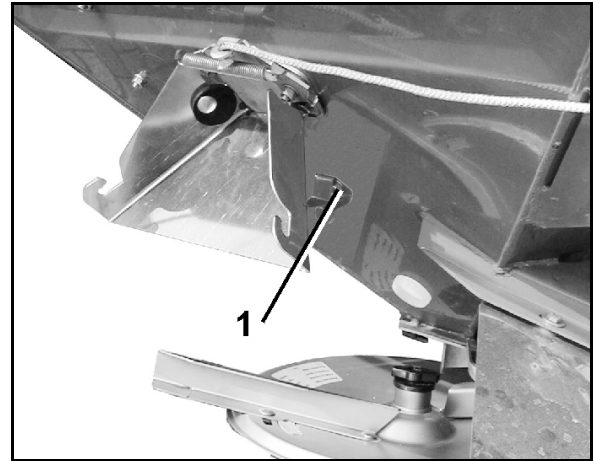
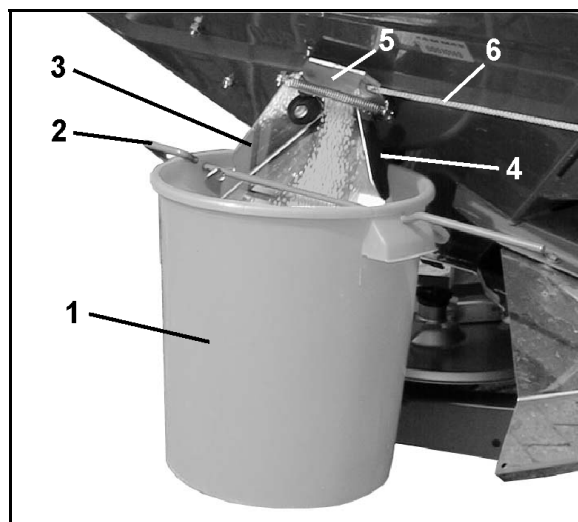

Fig. 56
Fig. 58
1. Hook the collection bucket (Fig. 58/1) with the bracket (Fig. 58/2) on to the outlet chute (Fig. 58/3). Engage the collection bucket in the clamping device (Fig. 58/4 and Fig. 56/1).
2. Open the lateral slider (Fig. 58/5) of the discharge chute fully for approx. 5 sec. with the rope (Fig. 58/6) – this ensures a uniform flow of fertiliser. Afterwards, pour back the collected fertiliser into the spreader.